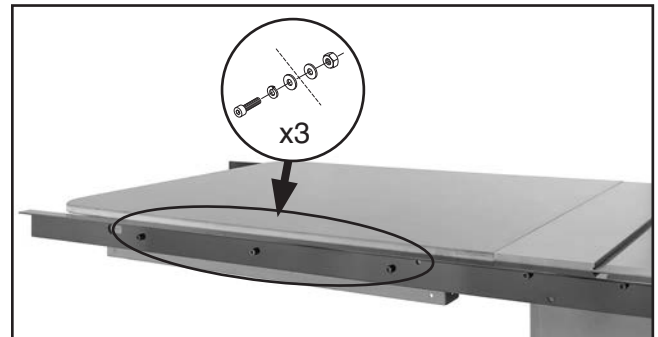

Figure 30. Rear rail/table fastener locations.
4. Fasten the rear rail to the extension table with (3) M8-1.25 x 25 cap screws, (3) 8mm lock washers, (6) 8mm flat washers, and (3) M8-1.25 hex nuts, as shown in **Figure 30**. Finger tighten the hex nuts for now.